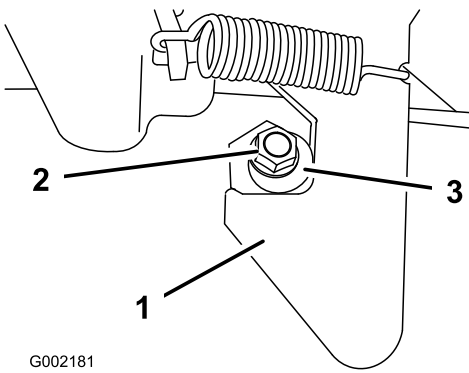

Figure 16
1. Loosen the nut on the end of the latch post (Figure 16).
2. Turn the latch post clockwise until it is snug against the latch and then tighten the nut (Figure 16).